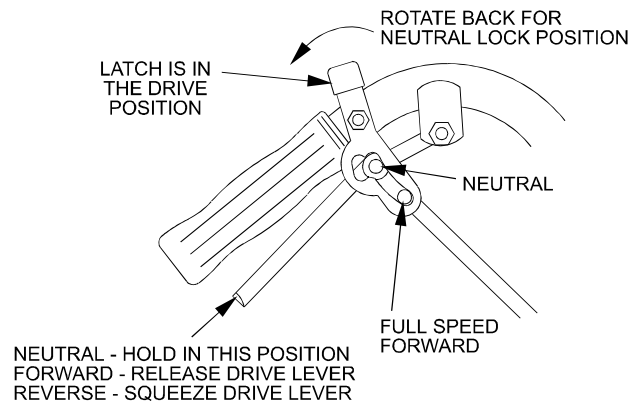

FIG. 5
- 4.1.3 Drive Levers: Located on each side of the upper handle assembly directly below the handle grips (See Figure 5). These levers individually control the speed and direction of each drive wheel. When the speed control lever is moved out of the neutral position and the neutral lock latches are moved into the drive position, as shown in Figure 5, and the drive levers are released, the drive wheels are engaged in the forward direction.
- 4.1.4 Neutral Lock Latch: Located directly above the drive levers. These latches allow the operator to lock the drive levers in a "neutral" position where neither of the drive wheels are engaged in either a forward or reverse direction (See Figure 5).